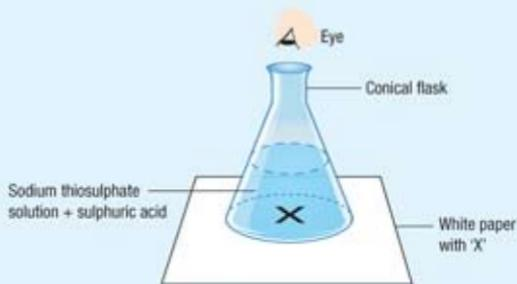

Figure 4.11
6. Observe the 'X' from the mouth of the conical flask (Figure 4.11).